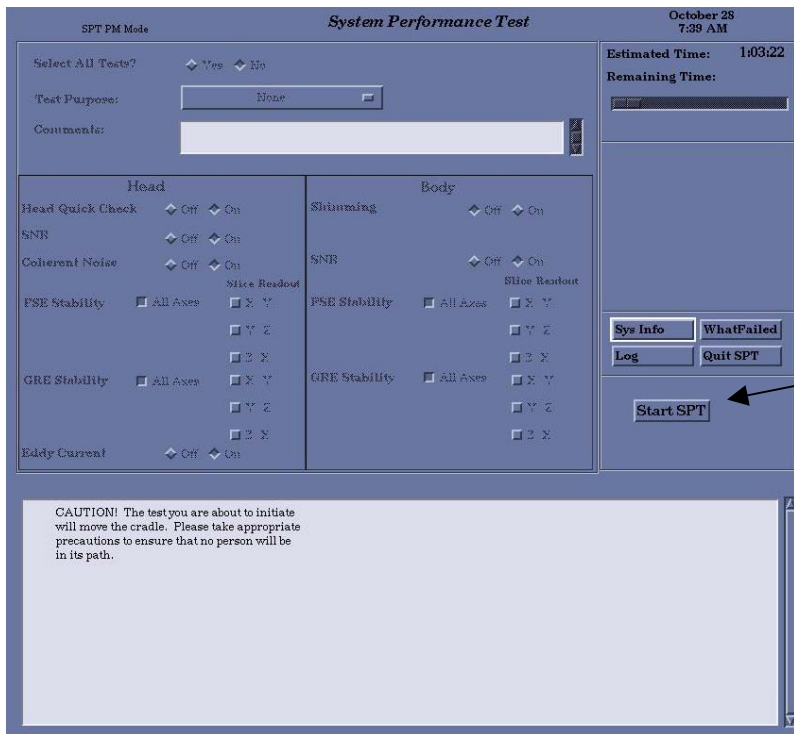
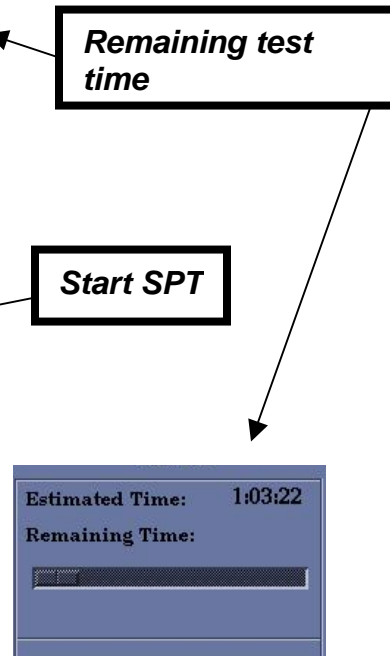
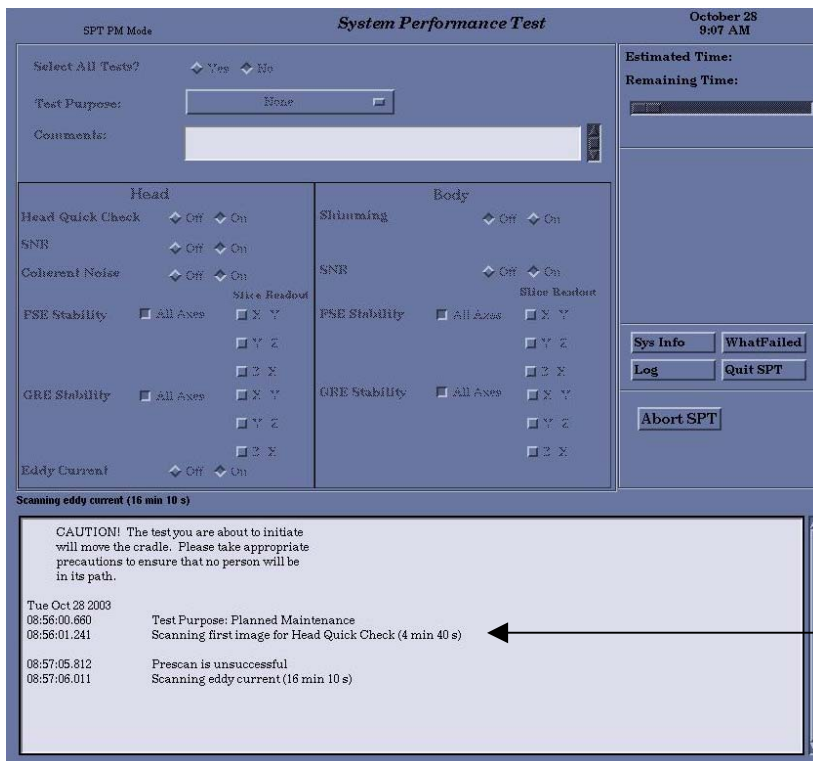

Figure 16
Figure 16a
Figure 17
4. The System Performance Test (SPT) screen will open **Figure 16** For the PM SPT mode, all the tests are pre-selected and cannot be changed. The test takes just over one hour to complete. In the upper right-hand corner of the SPT screen the remaining test time will be displayed. **Figure 16 & Figure 16a** Test Progress and Results will be displayed in the lower window of the SPT page. **Figure 17**